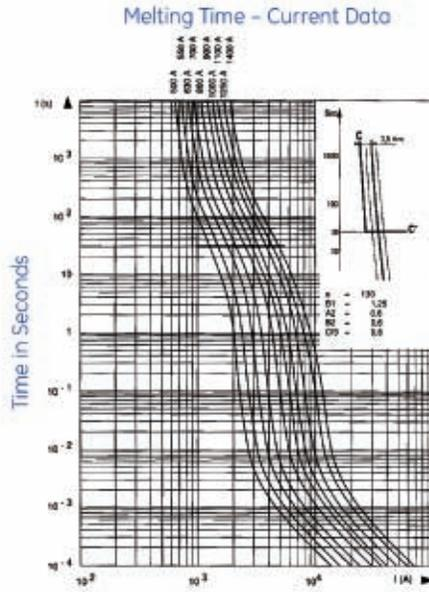

Fig. 2 – Fuse (400/500kVA) – 1000A
**Single 400/500kVA UPS Module (1000A fuse) – will support 3500A for at about 2 seconds (Fig. 2)**